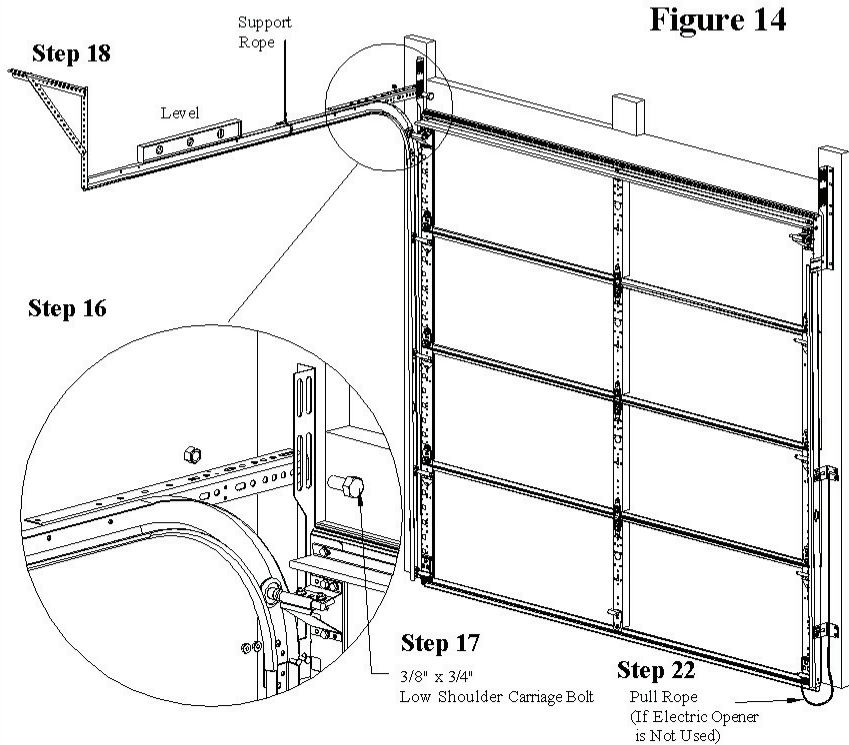

Figure 14
Place curved end of horizontal track assembly over the roller in the top fixture and attach to flag bracket with (2) 1/4"x5/8" track splice bolts and (2) 1/4"-20 hex nuts. temporarily support back end of horizontal track using a rope or wire from the roof trusses to support back end (Figure 14).
Replace support rope or wire with metal angle hangers (supplied by installer, recommend minimum 14 gauge) (Figure 14).
Step 19: Make sure track is level and square with opening (Figure 14). make sure distance between track and door is the same at the bottom of the vertical (Figure 14), at curve of horizontal and back of horizontal. A adjustment to track position may need to be made later, after the door is opened to maintain proper spacing.
Tighten the slide on the top fixture by pushing the top section tightly against the opening and lightly pulling the slide towards the inside of the garage (Figure 14). Tighten Nuts.